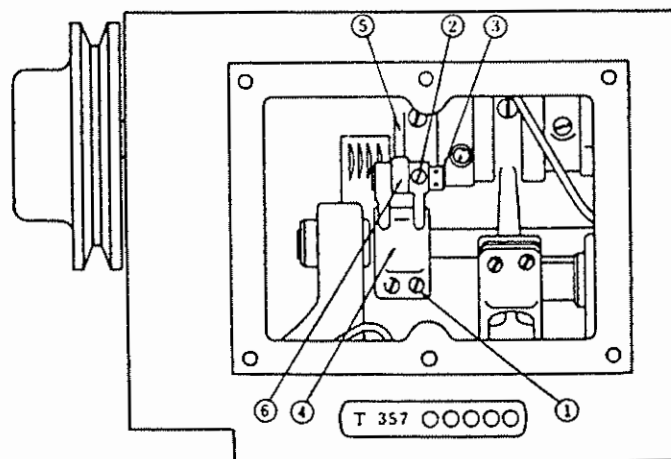

Fig. 30
**6. Adjusting the looper avoid motion of the safety stitch looper (Fig. 30)**
First, open the back cover of the machine. Next, rotate the pulley with your hand and set the safety stitch looper in the position as shown by Fig. 30. Loosen the set screws ① and ②. Rotate the looper avoiding link pin ③. As this looper avoiding link pin is an eccentric type pin, the clearance of the center of the pin ④ either stretches or shrinks. Also, when the looper avoiding link pin is rotated, the small edge part ⑥ of the looper avoiding connecting rod goes up and down.
A) When the looper avoiding range must be increased, rotate the looper avoiding link pin ③ to lower the small edge part ⑥.
B) When the looper avoiding range must be decreased, rotate the looper avoiding link pin to raise the small edge part ⑥.